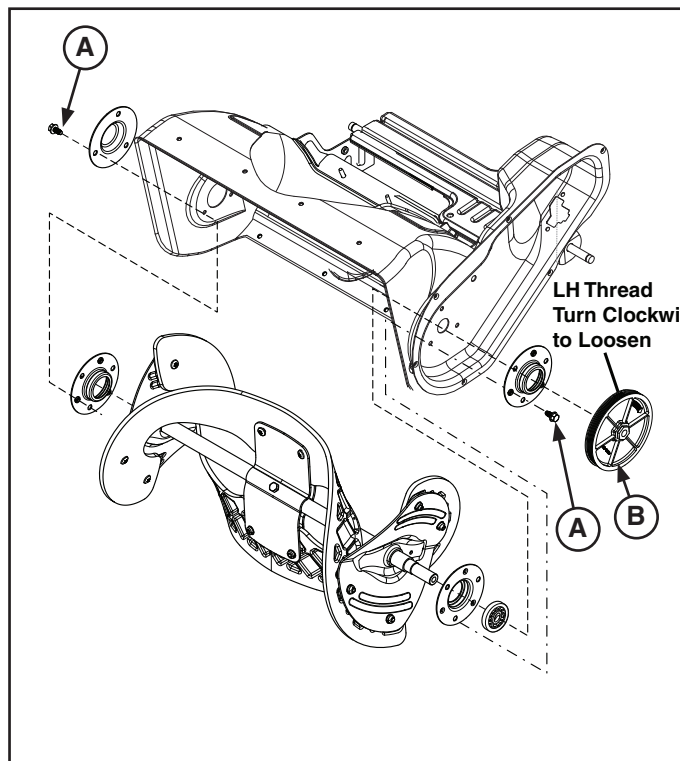

Figure 3. Replace Belt, Spacer, and Nut
4. Secure the auger. Using an impact wrench set to **clockwise**, remove the auger pulley (B, Figure 3).
5. Inspect the six taptite screws (A) securing the auger bearing retainers to the housing. They should be torqued to 7 ft. lbs (84 in. lbs).